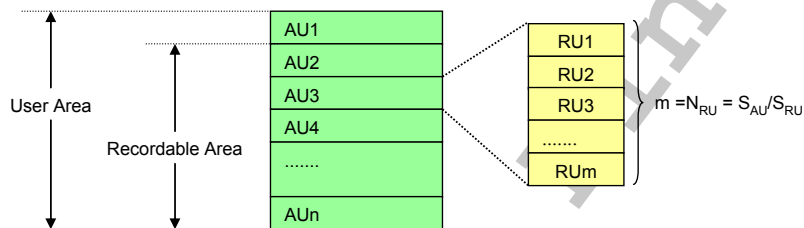

Figure 4-27: Definition of Allocation Unit (AU)
User Area is divided into units called “**Allocation Unit (AU)**” (Refer to Figure 4-27). Each card has its own fixed **AU Size ( $S_{AU}$ )** and the maximum AU Size is defined depending on the card’s capacity. The host should manage data areas with the unit of AU. Several AUs from AU1 should not be used for real time recording because those may include system information. AV application should start recording from the first complete AU, to which only user data can be recorded. Note that this specification does not apply to Protected Area.
Each AU is divided into units called “**Recoding Unit (RU)**” (Refer to Figure 4-27). The **RU Size ( $S_{RU}$ )** should be one or multiple of cluster size specified in the SD File System Specification. **The number of RUs in an AU ( $N_{RU}$ )** is calculated from  $S_{AU}/S_{RU}$ .